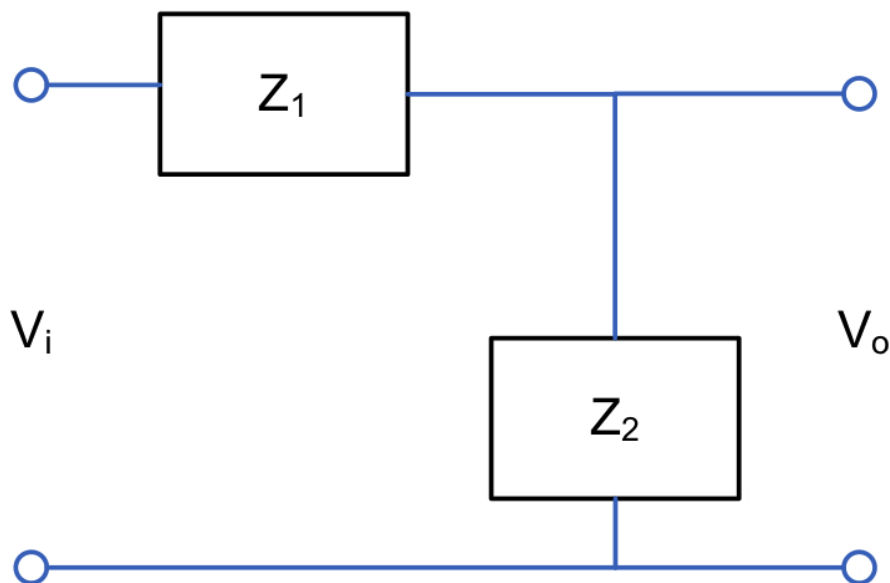

Figure 3.2: Generic Voltage Divider Circuit.  $V_i$  is the input voltage and  $V_o$  is the output voltage
- Use the color-coded resistors given to you to build a voltage divider circuit (as shown in Figure 3.2), which reduces by half the amplitude of the voltage waveform generated by the microcontroller. For obtaining the resistance in ohms from the color-code, you may refer to: <http://www.hobby-hour.com/electronics/resistorcalculator.php>. Observe the input and output waveforms on the two-channel oscilloscope.
- Insert the given combination of resistor ( $Z_1$ ) and capacitor ( $Z_2$ ) as shown in Figure 3.2.